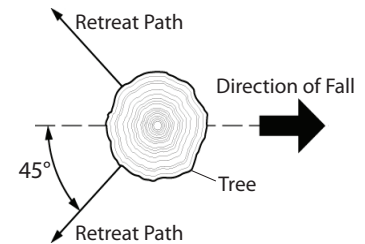

Figure 14 - Retreat Path From Tree
- Plan and clear a retreat path before felling. Make retreat path opposite to planned direction of fall of tree and at 45° angle (see Figure 14).